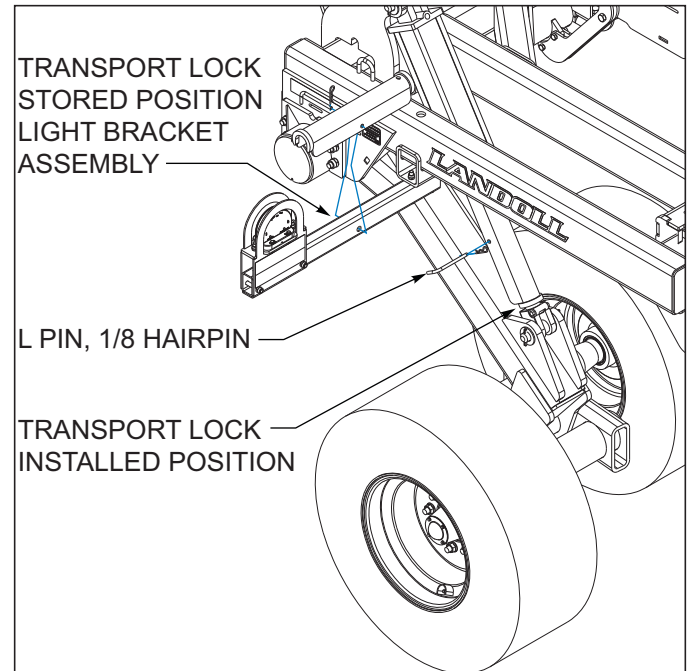

Figure 4-3: Transport Locks
2. The hydraulic system is not filled with oil and should be purged of air before transporting and field operations. Carefully hitch the Weatherproofer to the tractor and connect the hydraulic lift hoses. Check to make sure the tractor hydraulic reservoir is full of the manufacturer's recommended oil. Slowly raise the machine. With all cylinders fully extended remove the transport lockouts *See Figure 4-3* Store transport lockouts on light bracket assemblies. Lower and raise the unit to verify that cylinders are working simultaneously throughout the stroke. Do not loosen any hoses or fittings. Recheck tractor reservoir to make sure it is within operating limits.